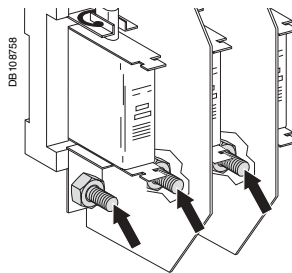

Fig. 15: power connection of enclosures C1 and C2.
- connect the phases marked L1, L2, L3 on the pads marked L1, L2, L3 (fig. 15, 16, 17 and 18).